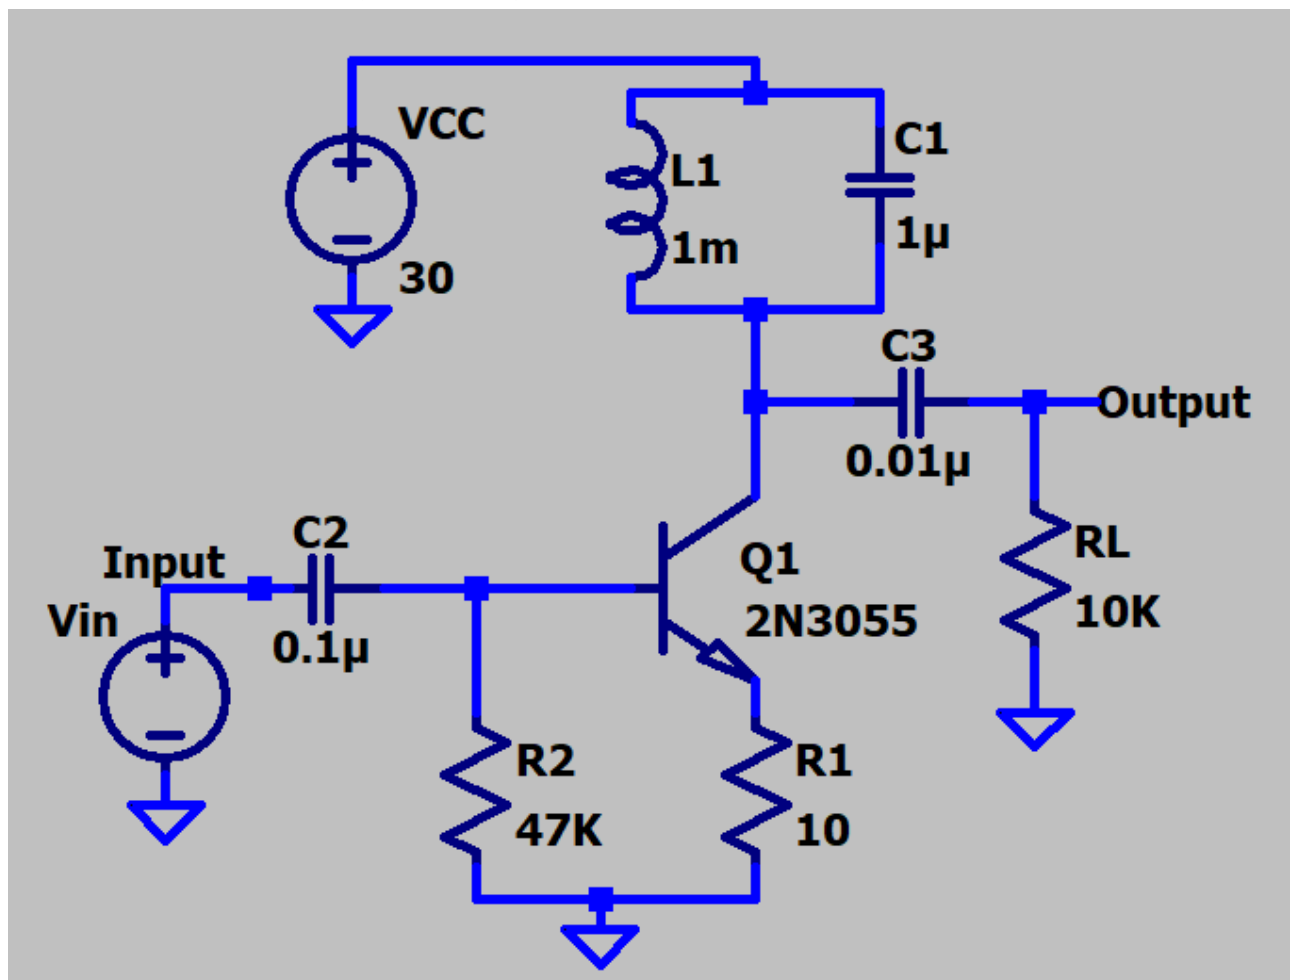

Fig. 3. Class C power amplifier circuit
3. Connect the class C power amplifier in Fig. 3: